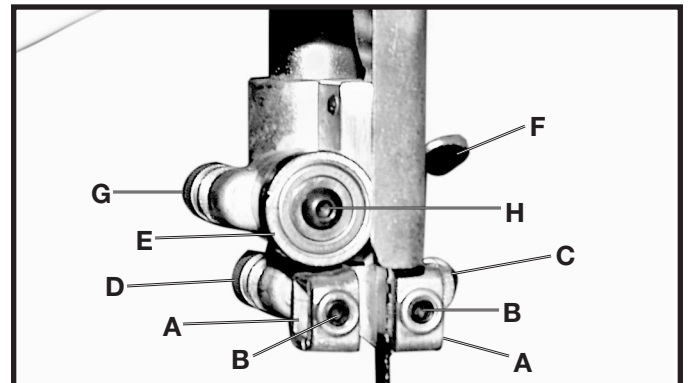

Fig. 55
3. Adjust the guides (A) Fig. 55 so that the front edge of the guides are just behind the “gullets” of the saw teeth. The complete guide block bracket can be moved in or out by loosening the thumb screw (C) and turning the knurled knob (D) Fig. 55. When the guides (A) are set properly, tighten thumb screw (C).
4. Two set screws (B) Fig. 55 hold the upper blade guides (A) in place. Loosen the set screws (B) to move the guides (A). Place them as close as possible to the side of the blade. (Be careful not to pinch the blade). Tighten the screws (B).
5. When the blade guide wears to a point that it cannot be adjusted close to the blade, loosen screw (B) Fig. 55 and reverse the blade guides (A) Fig. 55.
6. The upper blade support bearing (E) Fig. 55 prevents damage to the set in the saw teeth by keeping the blade from being pushed too far toward the back. The support bearing (E) should be set $1/64$ " behind the blade by loosening the thumb screw (F) and turning the knurled knob (G) to move the support bearing (E) in or out.
7. Adjust the blade support bearing (E) so that the back edge of the blade overlaps the outside diameter of the ball bearing by about $1/16$ ". The bearing (E) is set on an eccentric. To change the position, remove the screw (H) and bearing (E) Fig. 55. Loosen the thumb screw (F), back out the knurled knob from the set screw. Remove the hex shaft from the hole, and rotate it to move the eccentric for the bearing.